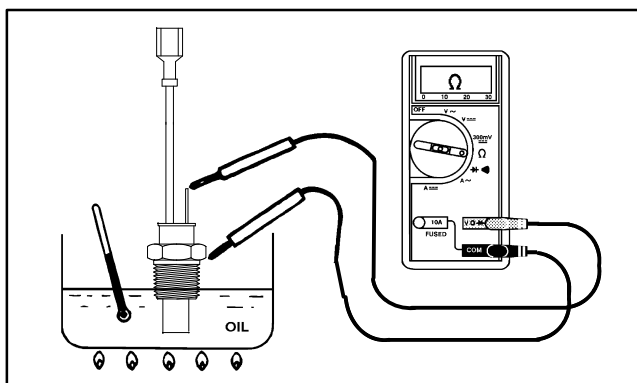

Figure 69
3. Put the end of the switch in a container of oil with a thermometer and slowly heat the oil (Fig. 69).